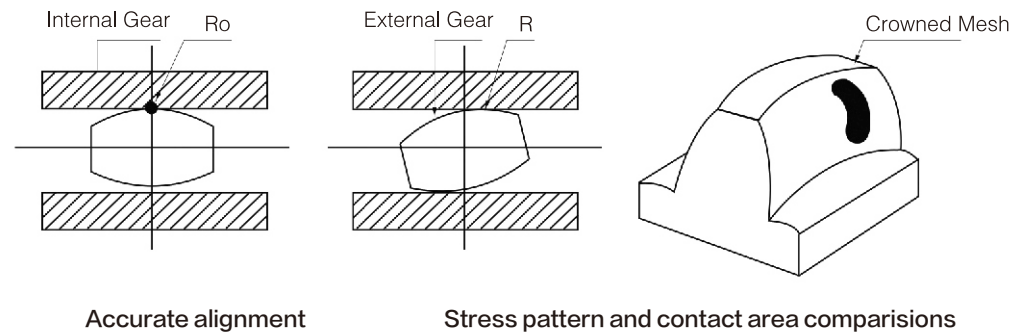

Fig.3
2. When there is no displacement deviation in the working condition, and there is no deviation in the coupling installation, the drum shaped tooth center of the inner ring gear (R_o) Contact with the outer gear sleeve, and when there is eccentricity and deflection angle, contact at a certain distance (R) from the center point of the tooth profile. (see Fig.3)